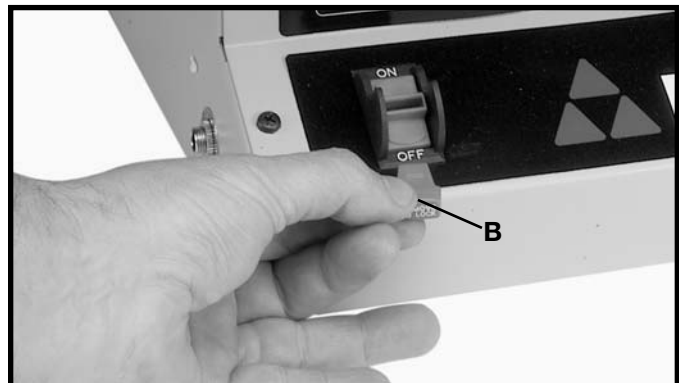

Fig. 15
**IMPORTANT:** When the machine is not in use, the switch should be locked in the "OFF" position to prevent unauthorized use. This can be done by grasping the switch toggle (B) Fig. 15, and pulling it out of the switch as shown. With the switch toggle (B) removed, the switch will not operate. However, should the switch toggle be removed while the machine is running, it can be turned "OFF" once, but cannot be restarted without inserting the switch toggle (B).